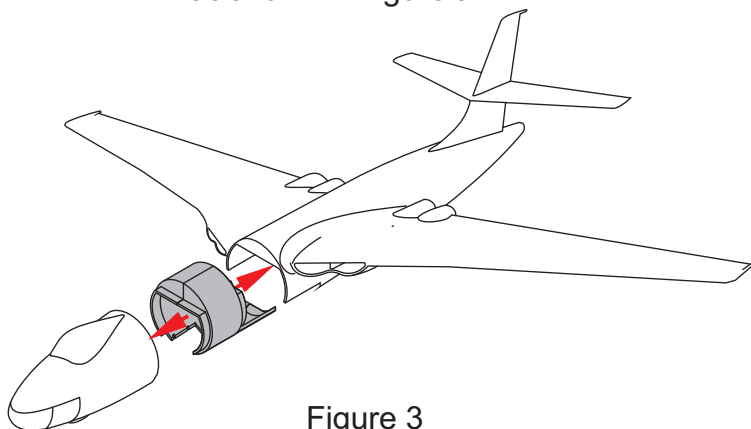

Figure 3
- F Fit the fuselage plug into the forward and rear fuselage sections as shown in figure 3. Make sure that:
- When you are satisfied with the symmetry and fit, attach the plug to the fuselage halves with epoxy cement and leave the adhesive to cure as shown in Figure 3.